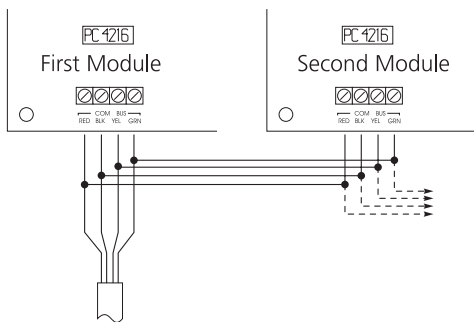

Figure 5, Connecting more than one PC4216 to Combus
5. Connect the jumper wires between the corresponding Combus terminals on each module. Note that all of the PC4216 modules installed in the annunciator must be connected to the Combus. Refer to figure 5 below.